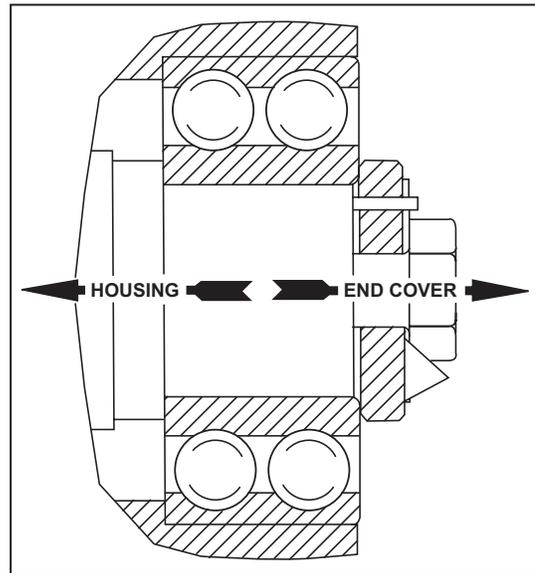

Figure 13 - Roller Bearings Illustration
All series: Install one bearing spacer (57) on each shaft. Lubricate shafts and install roller bearings with inner race flange outward. See Figure 13
14. Install oil retainer rings (14) and cap screws (30). Install roll pin (68) washers (25), oil slinger (20) (on drive rotor), lock tabs (59) and bolts (29). Bend over tabs.
15. Install mounting feet (304) with machined surface against housing and secure with lockwashers (80) and cap screws (307). Install lifting lugs (195) with cap screws (196).